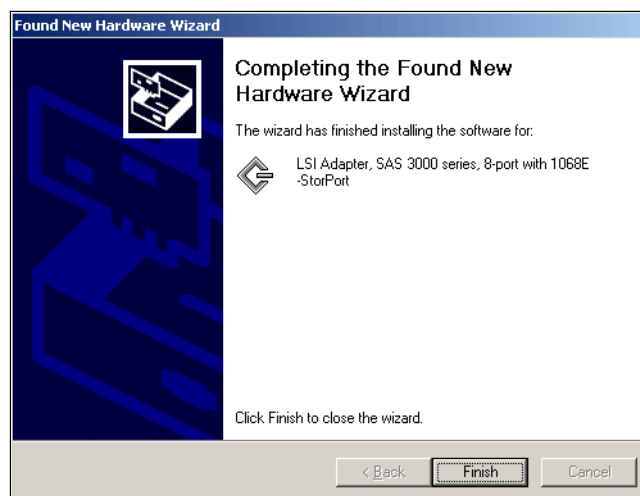

Figure 16-5 SAS HBA driver installed
4. The wizard now installs the driver, showing a progress bar. When complete, a window similar to Figure 16-5 displays.